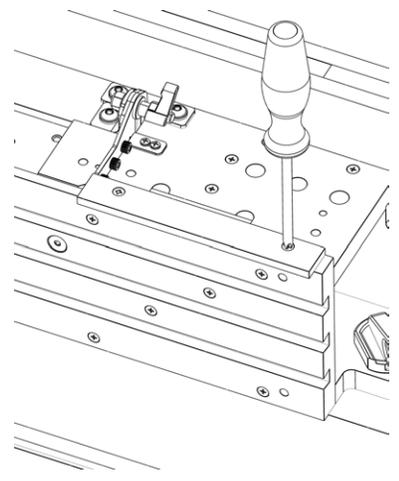

FIG. 4
2. With holes aligned, use (2) of the No. 6 x 3/4" Flat Head Screws (Part #6) and fasten the braces to the workstation. See Figure 4 and 5. Repeat steps on opposite side of workstation.